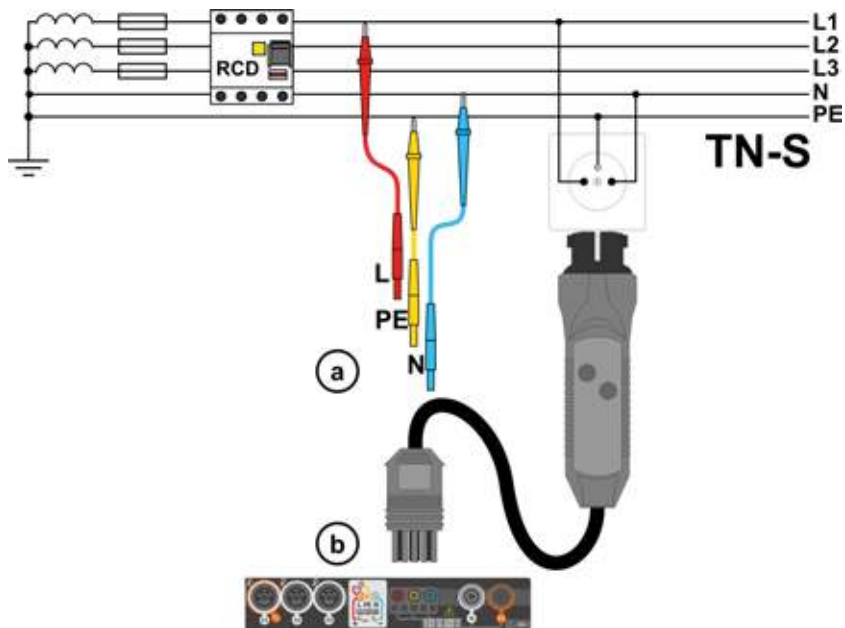
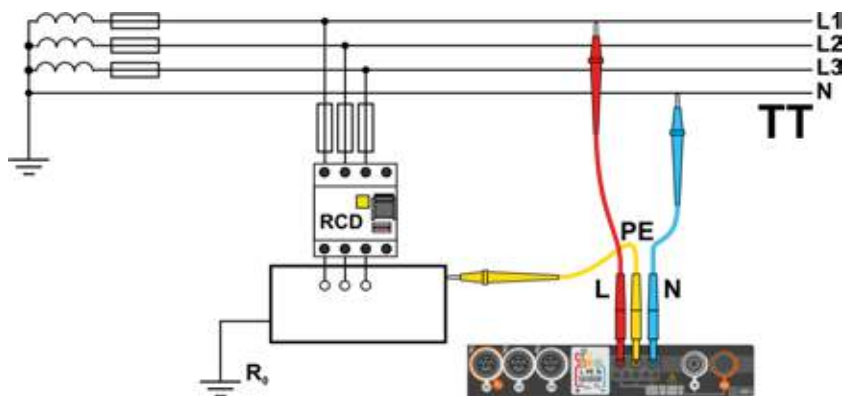
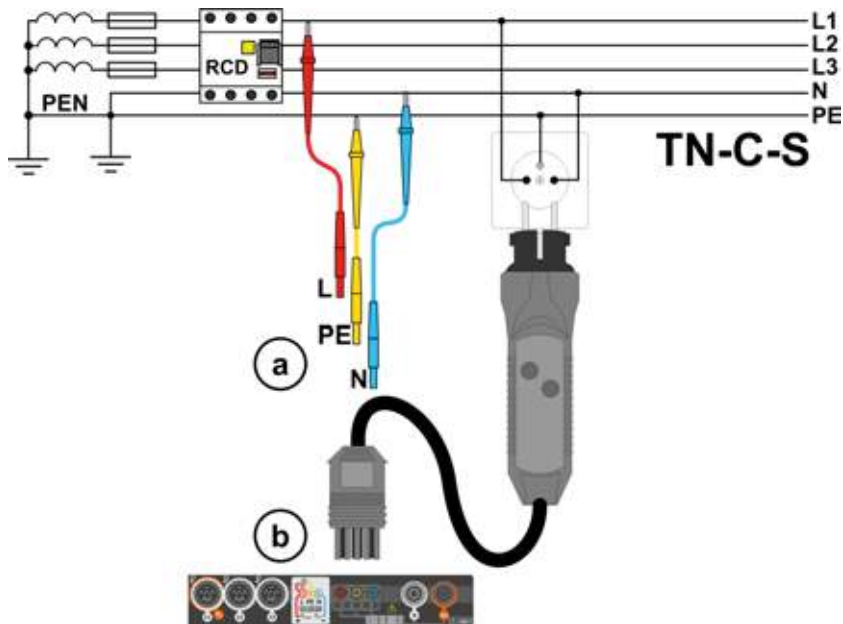

Fig. 3.3 Measurement in the TN-S system
Fig. 3.4 Measurement in the TT system
Fig. 3.5 Measurement in the TN-C-S system
- 1 Connect test leads according to Fig. 3.3 , Fig. 3.4 lub Fig. 3.5.